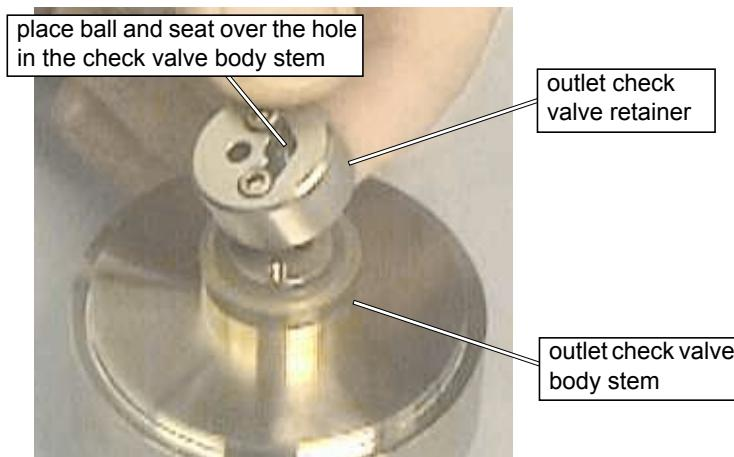

Figure 6-24
5. Place assembled **outlet check valve retainer** on the outlet end of the **check valve body stem** with the **outlet check valve seat** up against the end of the stem (Figure 6-24).